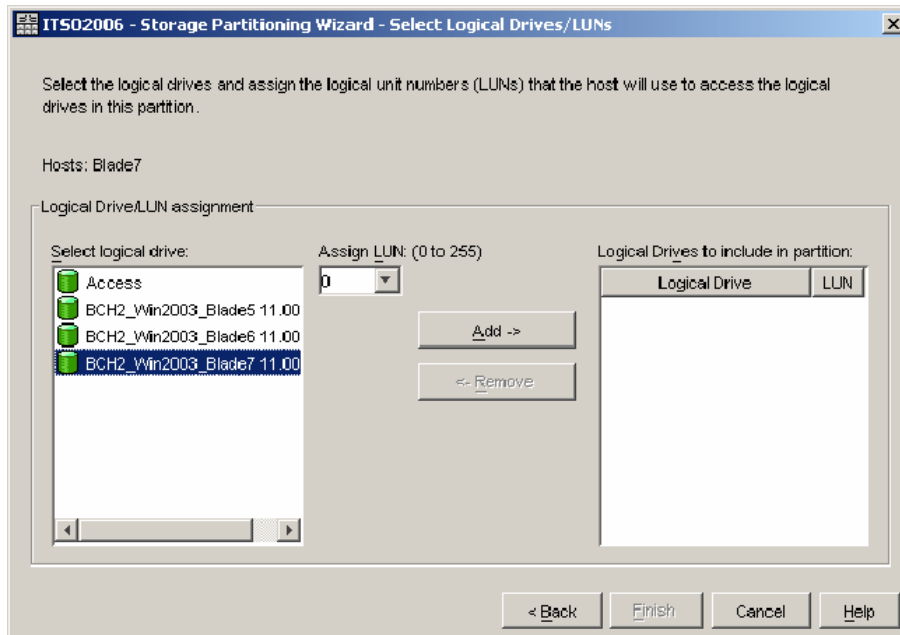

Figure 5-81 Mapping logical drives to Blade Server hosts
2. Select the logical drive that is to be mapped to the server blade and click **Add**. Assign a LUN number to the logical drive. Then click **Finish** (see Figure 5-81).